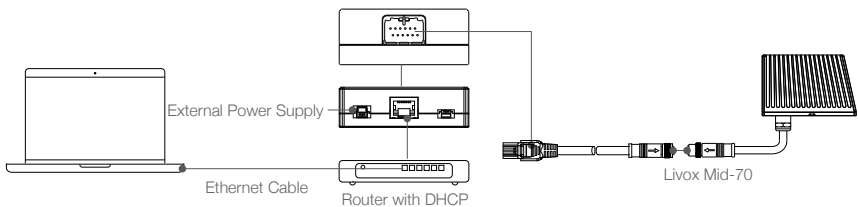

Figure 4.2.2 Connecting using dynamic IP address
5. Connect the Mid-70, conversion cable, Livox Converter 2.0, router, computer, and external power supply by following Figure 4.2.2.